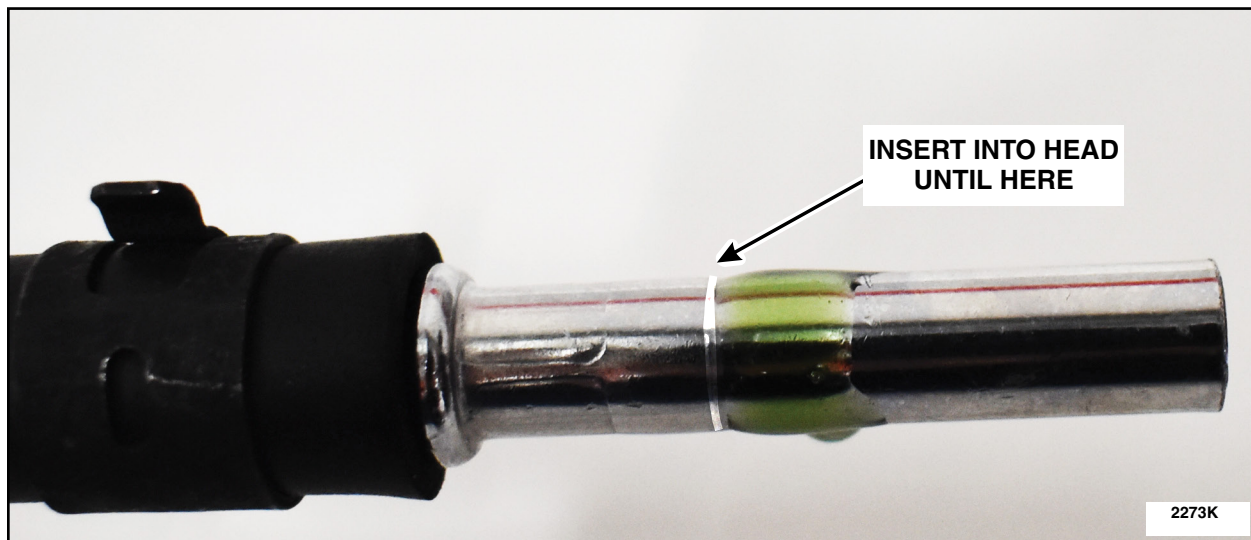

FIGURE 13
16. Apply Loctite® 638™ to the metal tube, in the area shown in Figure 13.
NOTE: When applying the Loctite® 638™, ensure that a full bead of the Loctite® 638™ is applied to the circumference of the metal tube in the area shown in Figure 13.